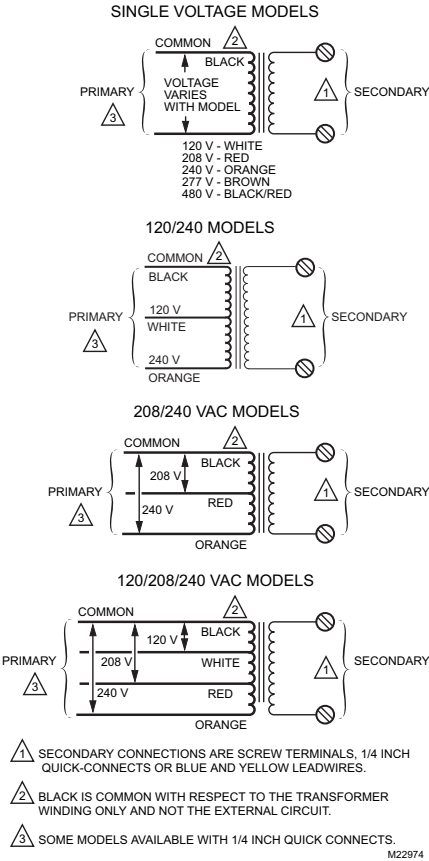

Fig. 6. Schematics for single and multitap transformers.
- 1. Make primary connections to the line voltage power supply. On multitap models, be sure to use correct leads for available power supply. See Fig. 6.